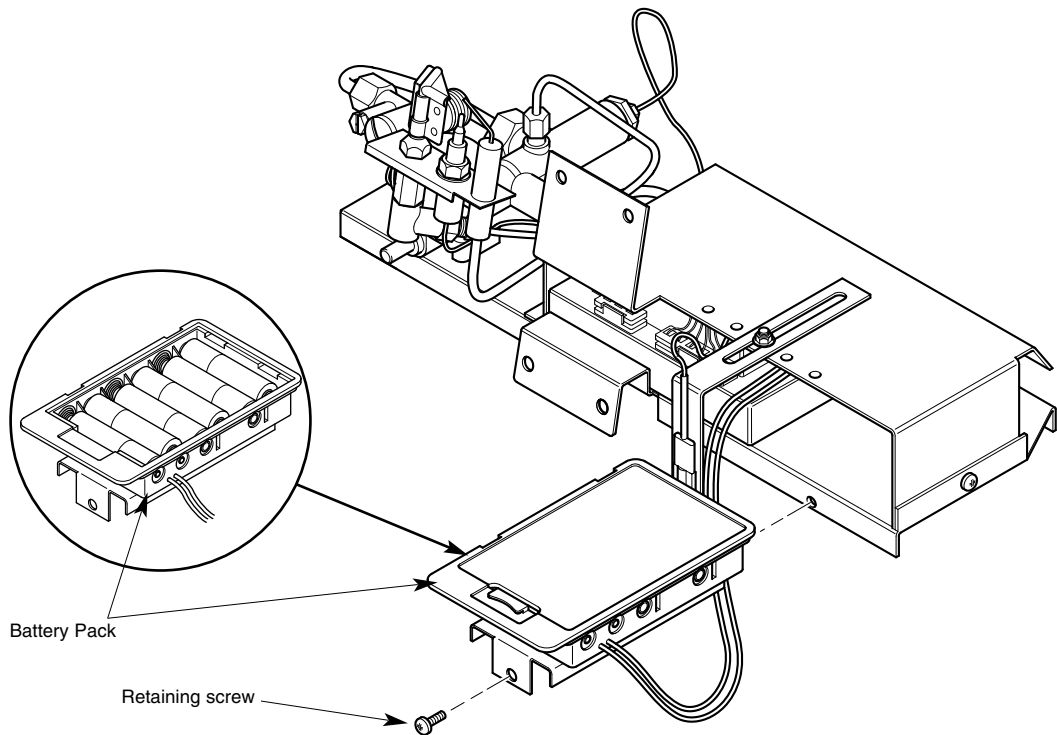

Fig. 14
Note: When the batteries are becoming discharged, the fire will emit a continuous beeping sound. The battery pack is held in place with a single screw, remove this screw and the pack can slide out. Unclip the cover and replace the batteries with good quality alkaline or lithium - 6 x 1.5V AA (Fig.14 - Page 16).
4. **Changing the batteries** - When the batteries are becoming discharged, the fire will emit a continuous beeping sound. The battery pack is held in place with a single screw, remove this screw and the pack can slide out. Unclip the cover and replace the batteries with good quality alkaline or lithium - 6 x 1.5V AA (Fig. 14).